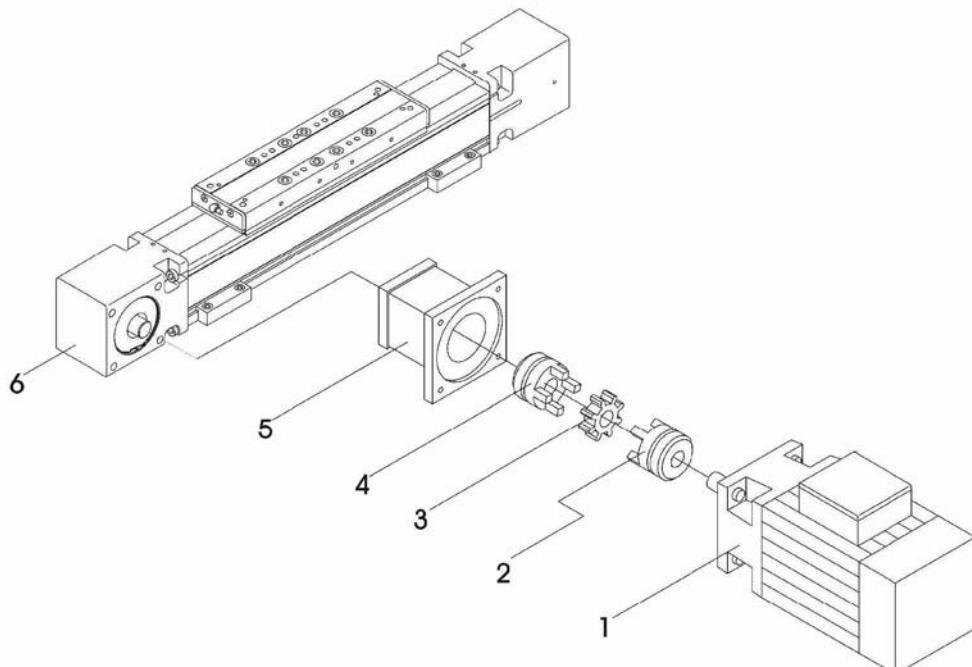

Fig. 6:
1. **Fig. 6:** Place the motor (1) in mounting position beside the linear drive unit.
4. Attach the motor adapter flange (5) to the fixed- bearing housing (6) with four screws.
5. Push the toothed wheel (3) onto the coupling half on the linear drive unit.
6. Mount the second coupling half (2) on the drive shaft of the motor.
7. Attach the motor with the coupling half to the motor adapter flange (5) with four screws. Ensure that no axial pressure is exerted on the motor shaft. If necessary, correct the distance between the two coupling halves.